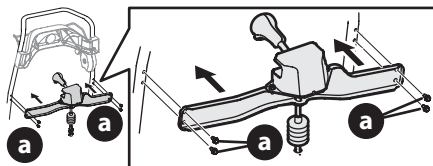

Figure 11
2. Using the hex washer screws (a), install the chute rotation control assembly (Figure 11).